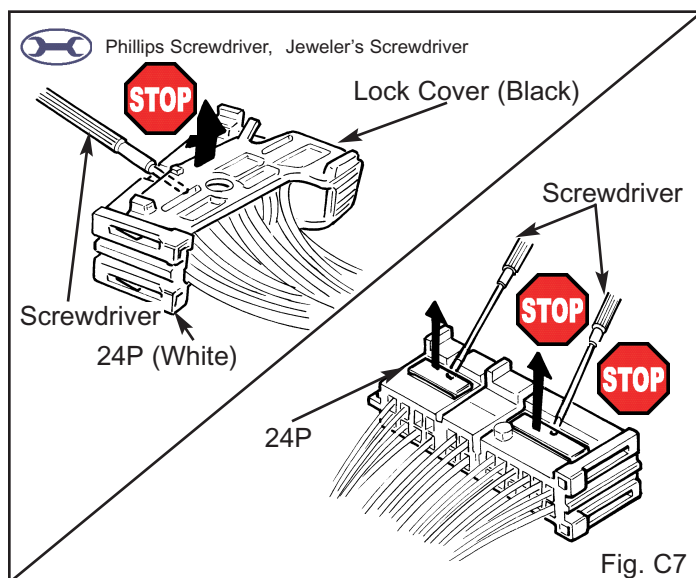

Fig. C7
13. Using a small screwdriver, lift up and slide the black lock cover from the 24P connector. (Fig. C7)
14. Using a small Jeweler's Screwdriver or the like, lift up the terminal retainer on the 24P connector. (Fig C7)